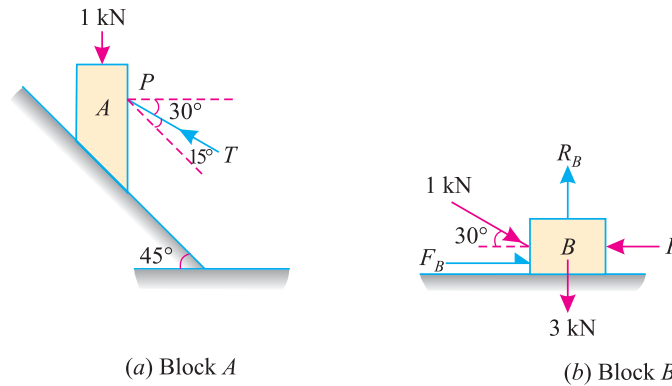

Fig. 8.22.
First of all, consider the equilibrium of the block (A), which is subjected to the forces as shown in Fig. 8.22 (a).
Now consider the equilibrium of the block (B), which is subjected to the forces as shown in Fig. 8.22 (b). We know that as the block is at the point of sliding towards left, therefore, the force of friction ( $F_B = \mu R_B$ ) will act towards right as shown in the figure. Now resolving the forces vertically,